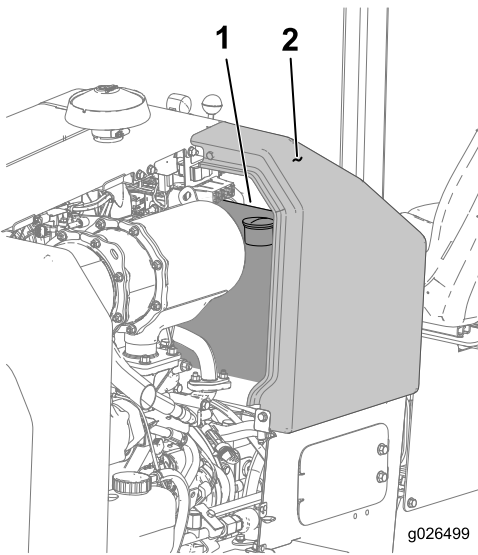

Figure 38
2. Remove the upper left panel of the console (Figure 38).